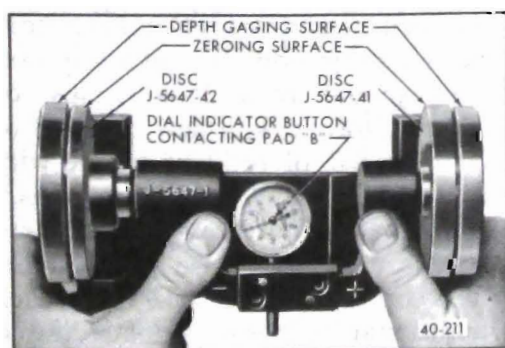

Figure 40-152 Zeroing Pinion Setting Gage
5. Place the indicator gage on the master gage so that the spring-loaded center is engaged in the centering hold corresponding to the dial indicator pad "B". See Figure 40-152.